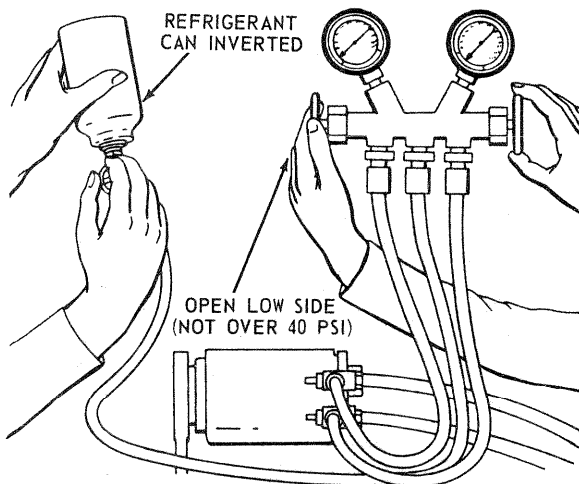

FIGURE 10
3.3 Charging System (fig. 10)
3.6 Adding Refrigerant to System (fig. 10)